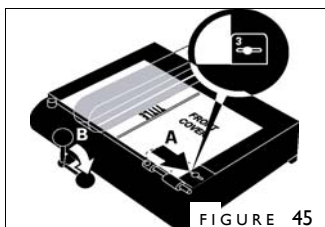

FIGURE 45
1. With your cover and the Centering Guide in their last positions, slide your cover over so its right edge stops against step 3 (figure 45). Push the lever to the right to hold down your cover.